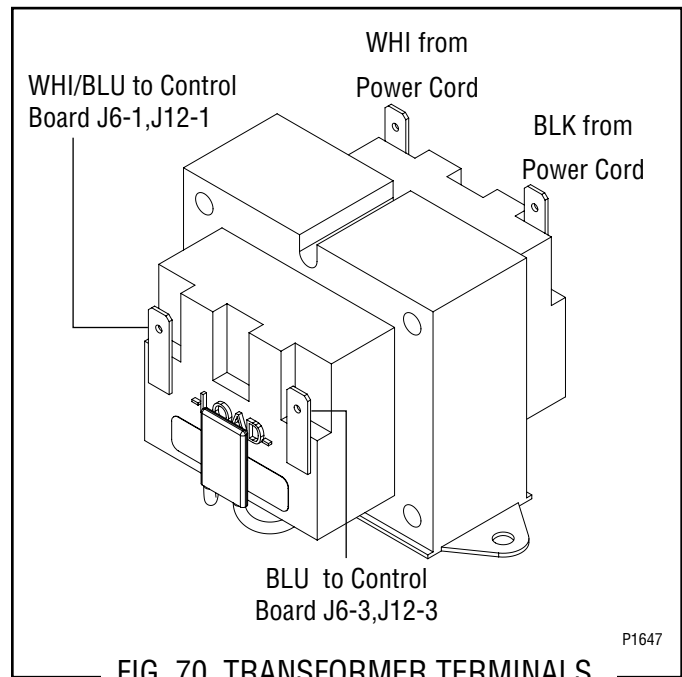

FIG. 70 TRANSFORMER TERMINALS
7. Refer to Fig. 70 and connect the transformer to the main wiring harness.